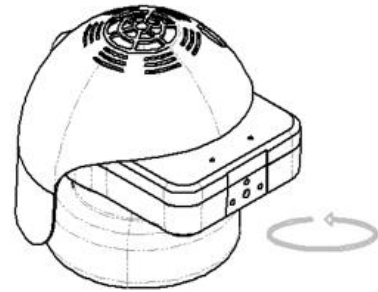

Figure 5
2. Attach the detector chamber to the ViraWarn Patriot by rotating it in a clockwise direction as shown in **Figure 5**.